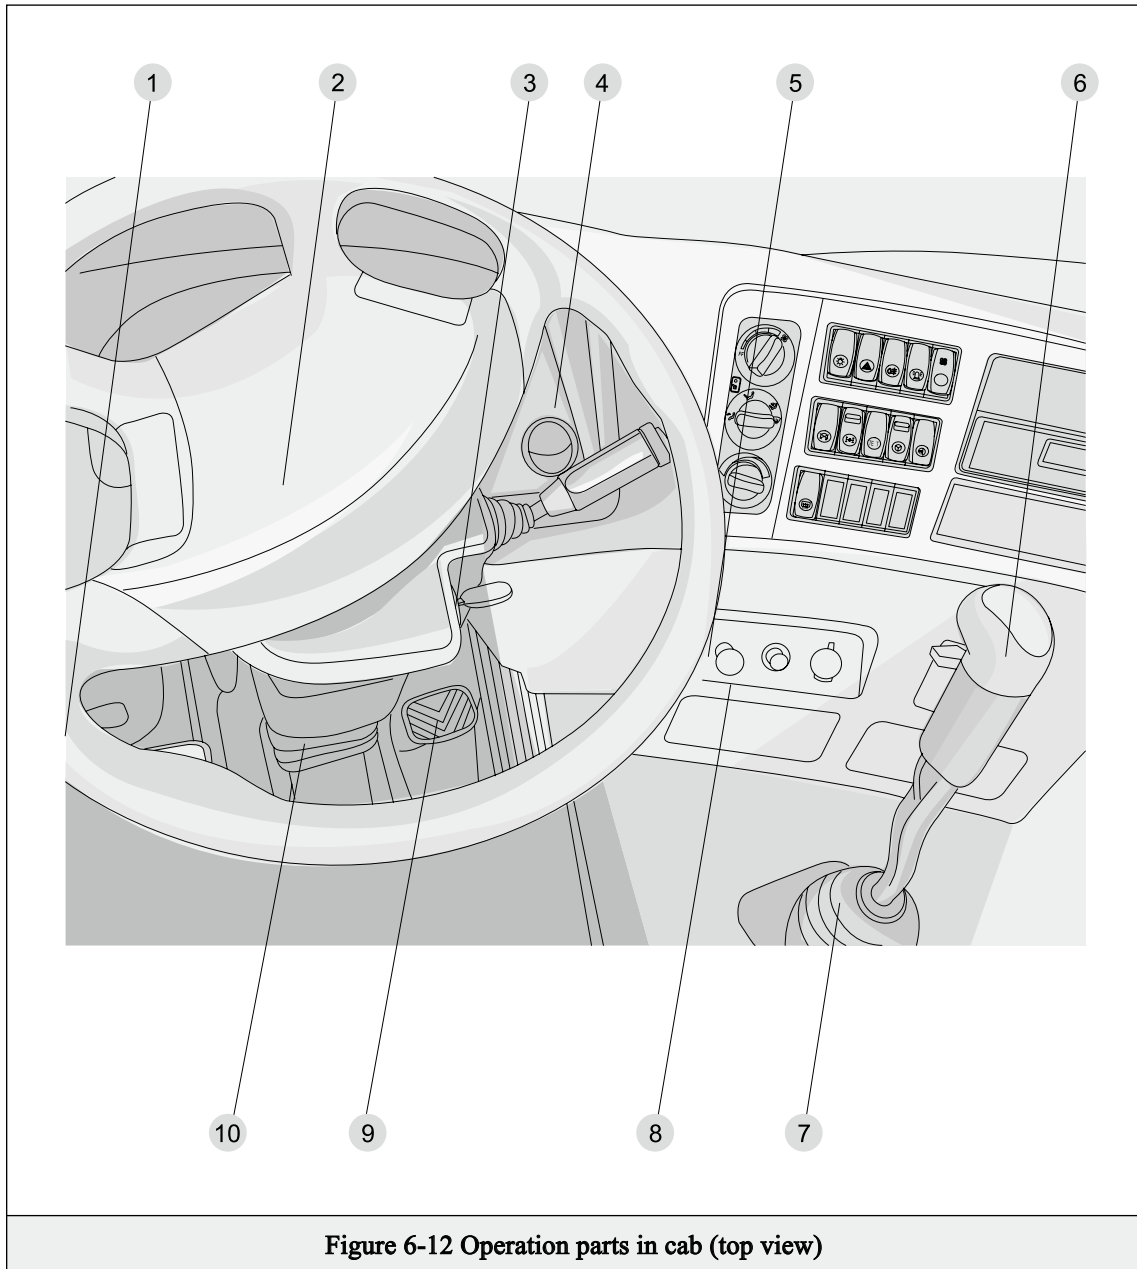

Figure 6-12 Operation parts in cab (top view)
The combination switch assembly (No. 2 and No. 4 in Figure 6-12, the lighting switch, exhaust brake, wiper switch) is introduced as follows:
1) Lighting control switch: 2 in Figure 6-12 is lighting switch, push switch forward to turn on the right turning light, and the switch backward to turn on the left turning light, then the left turning light and driving right steering light on the instrument panel flash. Rotating forward 30° is for low beam, and rotating forward another 30° is for the high beam, and the high beam indicator light goes on. The small and large lights are as follows: OFF, small light, and headlight. Uplift the switch to realize light changing, as shown in A view.
2) Exhaust brake, wiper motor and washing switch: 4 in Figure 6-12 is the exhaust, wiper and washing switch, press the button at the top of the switch to start washing, which automatically resets after release. Rotating operation can realize intermittent, low-speed and high-speed wiping of the wiper motor, as shown in the B view. Pull back the switch to turn on the engine exhaust brake.
18. Combination switch (Figure 6-12)